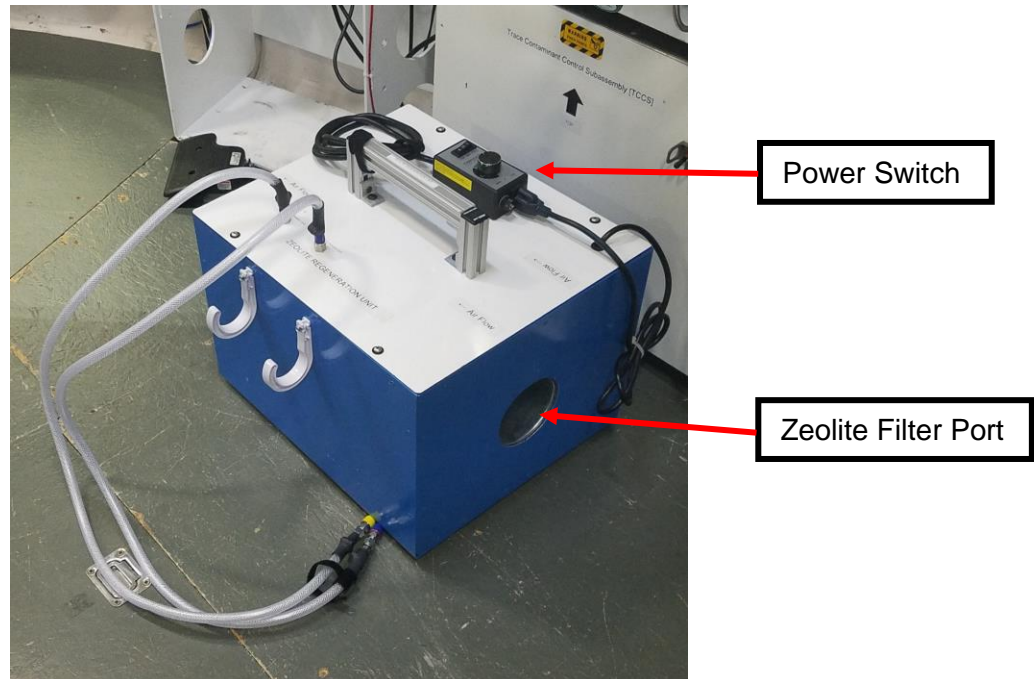

Figure 5: Zeolite Regeneration Unit (ZRU)
- 4.1 Move Zeolite Regeneration Unit (ZRU) in front of Sabatier (see Figure 5).
- 5.1 Open ZRU port and check that it is empty. (See Figure 5)